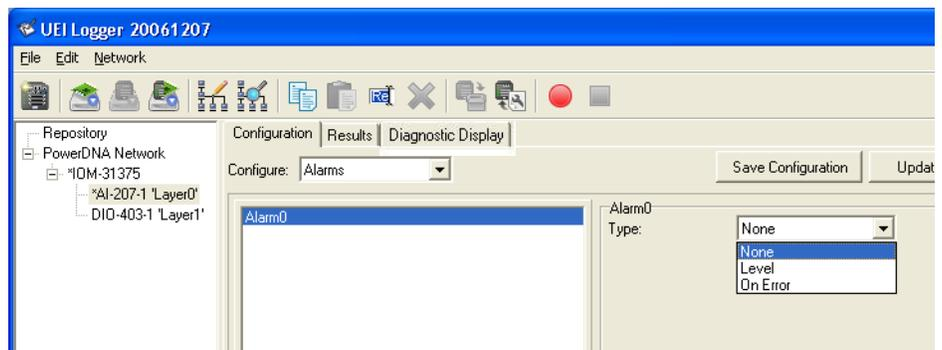

Figure 2-29 Alarm Configuration Options
STEP 1: Click on the alarm name in the left panel. A panel then appears at the right with available configuration options, as shown in **Figure 2-29**.